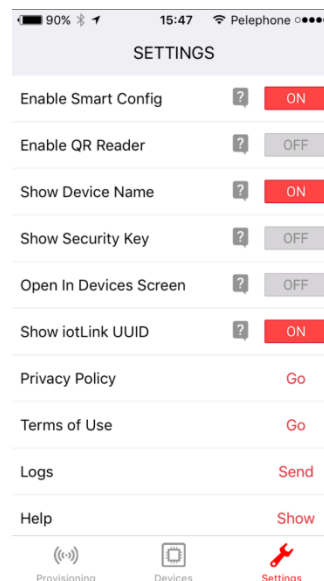

Figure 14. Wi-Fi Starter Settings Tab
1. Open the application and navigate to the Settings tab. Ensure the Enable Smart Config setting is set to ON (Smart Config is the preferred provisioning method, see Figure 14).